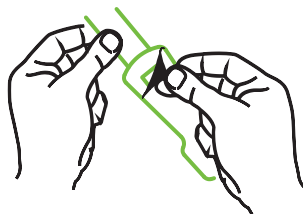

Figure 12-10 Removing protective liner from sensor
- 2 Remove and discard the protective liner from the sensor (figure 12-10).